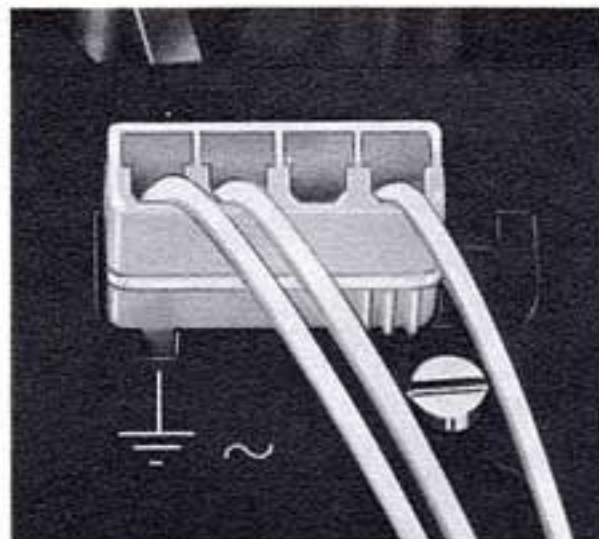

Fig. 3
B. No. 209 458; AMP-No. 42859/1 (Fig. 3) for 4-pole power supply plug